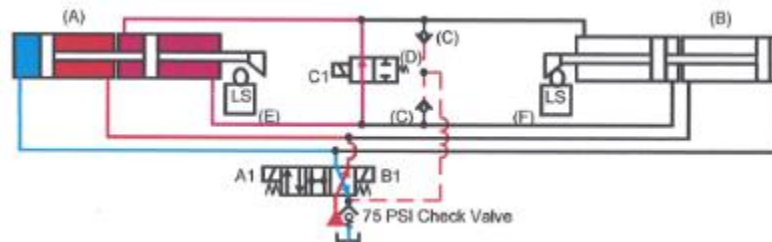

Figure 22-36. Tandem-cylinder synchronizing circuit.
When the cylinders get close to home, they level or re-phase when necessary, as pictured in Figure 22-36. Limit switches (E) and (F) both have to make to center the 4-way directional valve. If one limit switch makes early, solenoid **C1** of 2-way directional valve (D) energizes, allowing the lagging cylinder to transfer oil until it makes its limit switch.